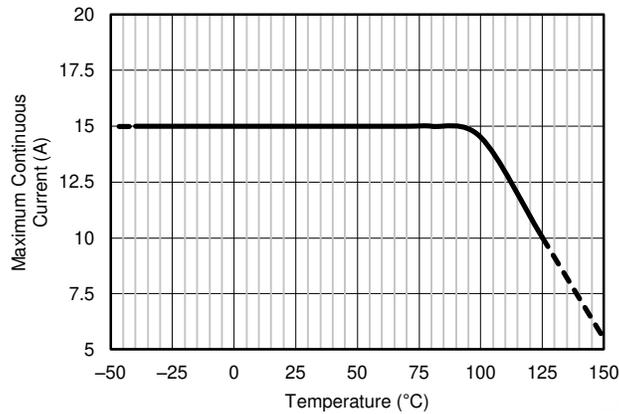

Figure 7-1. Maximum Current vs Temperature
- (3) The supply voltage range maximum is 36 V, but the reference voltage cannot be higher than 18 V.
- (4) See Figure 7-1 and the *Layout* section for additional information on the current derating and layout recommendations to improve the current handling capability of the device at higher temperatures.
- (5) See the *セクション 7.3.1* section for additional information regarding the integrated current-sensing resistor.
- (6) System gain error includes amplifier gain error and the integrated sense resistor tolerance. System gain error does not include the stress related characteristics of the integrated sense resistor. These characteristics are described in the *Shunt Resistor* section of the *Electrical Characteristics* table.
- (7) The internal shunt resistor is intended to be used with the internal amplifier and is not intended to be used as a stand-alone resistor. See the *Integrated Shunt Resistor* section for more information.
External factors (such as ambient temperature, external air flow, and PCB layout) can contribute to how effectively the heat developed as a result of the current flowing through the total package resistance can be removed from within the device. Under the conditions of no air flow, a maximum ambient temperature of 85°C, and 1-oz. copper input power planes, the INA250 can accommodate continuous current levels up to 15 A. As shown in Figure 7-1, the current handling capability is derated at temperatures above the 85°C level with safe operation up to 10 A at a 125°C ambient temperature. With air flow and larger 2-oz. copper input power planes, the INA250 can safely accommodate continuous current levels up to 15 A over the entire –40°C to 125°C temperature range.